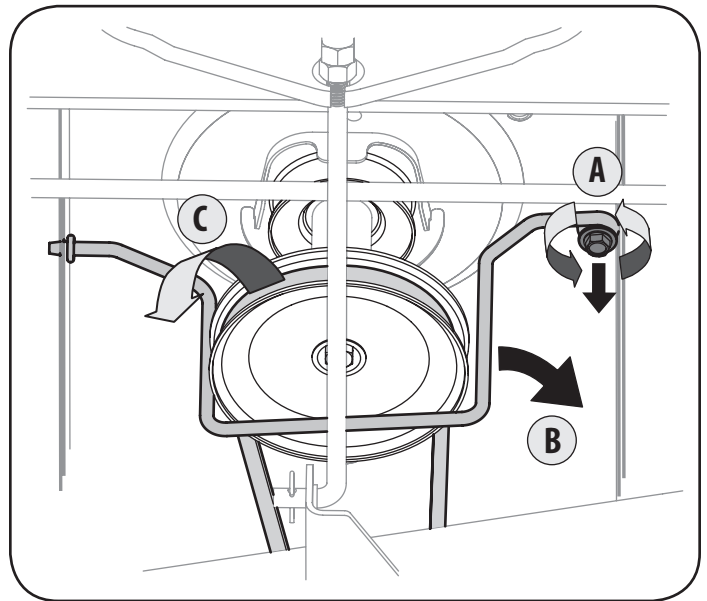

Figure 23
3. Remove the self-tapping screw (A) that secures the belt-keeper rod from around the tractor's PTO pulley, then remove the belt keeper rod (B). See .
4. Remove the belt (C) from around the tractor's PTO pulley. See Figure 23.